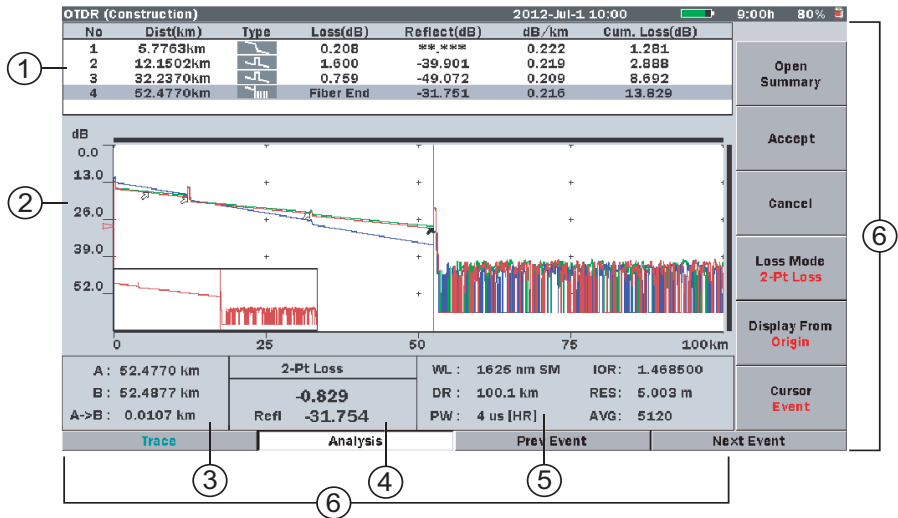

Figure 6-20: Test Results screen with Summary Closed
The Cursor Distance information (see item 3 in Figure 6-20 on page 6-51) displays the following:
The Loss Mode, Measurement, and Reflectance area (see item 4 in Figure 6-20 on page 6-51) displays the following: